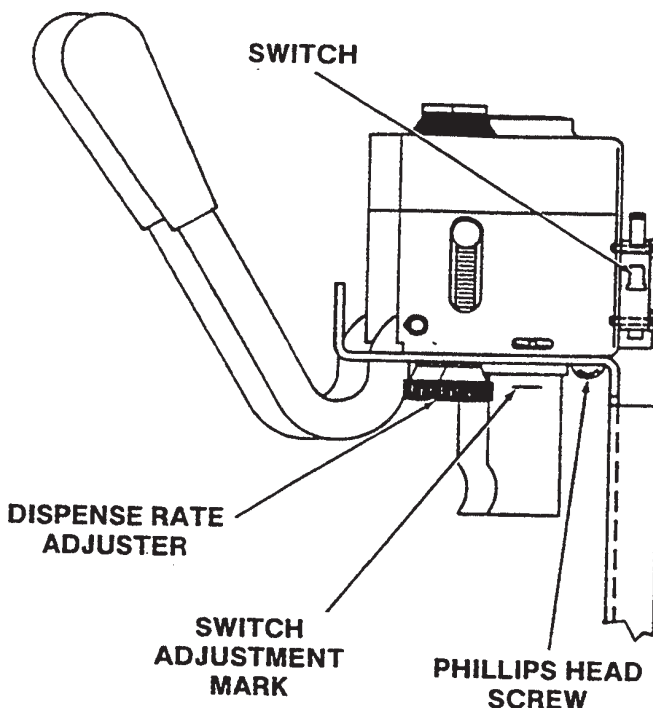

Figure 6-9 Spigot Switch Replacement
2. Remove the dispense rate adjuster knob located below the header panel. (Refer to Figure 6-9)